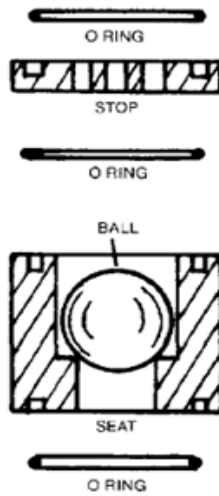

Fig. 37
- b) TFE Valves (Figure 37), for applications requiring the chemical resistance of TFE.